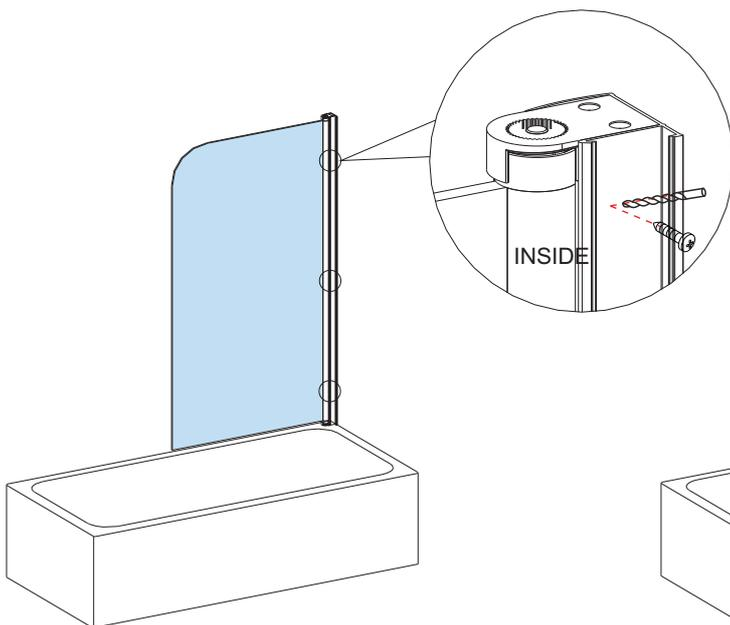

FIG 5
5. Drill 3 holes through the wall profile and fixed panel using a 3.0mm steel drill bit **SP0B08092** Using the screw, fix the screen upright profile to the wall profile in 3 places. **FIG 5.**